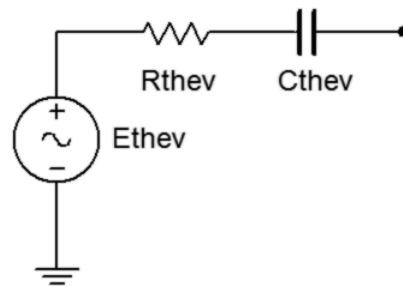

Figure 11.2
5. Using the decade resistance box and capacitor, build the Thevenin equivalent circuit of figure 11.2 and apply the  $1\ \text{k}\Omega$  load resistor. Measure the load voltage and record in Table 11.1. Compare with the values of the original (non-Thevenized) circuit and determine the deviation between the original and Thevenized circuits.